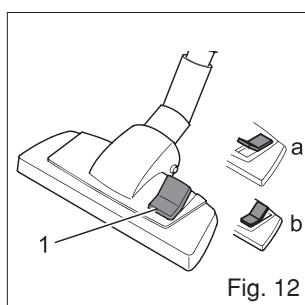

Fig. 12
4) Set the nozzle switch to "carpet" or "hard floor" according to the floor (Fig. 12) to be cleaned: